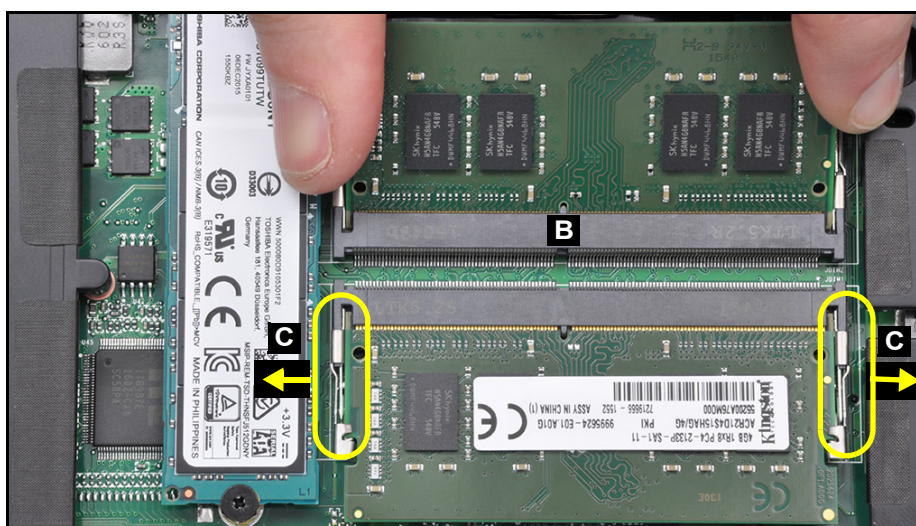

Figure 3-14. DIMM Removal
3. Remove the DIMM from the mainboard connector (B) (Figure 3-14).
4. Push the DIMM clips (C) outwards (Figure 3-14).